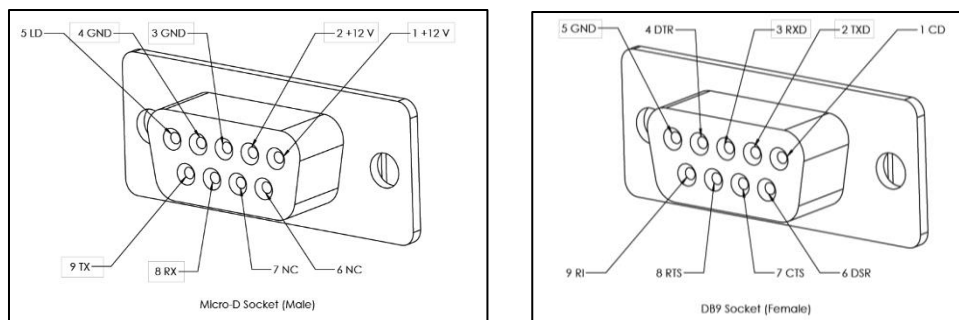

Figure 1. Pin Callouts for Micro-D Socket and DB9 Socket
- Use Figure 1 to identify pin callouts of standard Micro-D and DB9 connectors.